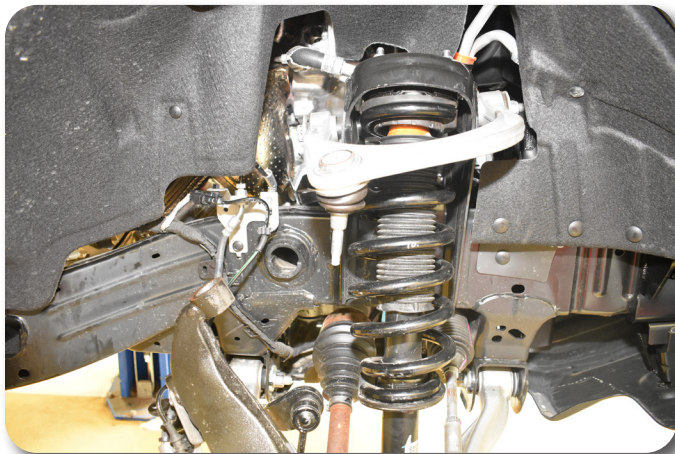

Figure 3
8. Using an appropriate separator, dislodge the upper ball joint from the steering knuckle Figure 3.